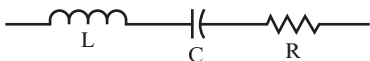

FIGURE 12.9
46. In the circuit shown in Figure 12.9, $L = 1 \text{ mH}$, $C = 0.1 \mu\text{F}$, and $R = 10 \text{ ohms}$. Find f_r , X_L , X_C , Z , Q , and the bandwidth. _____